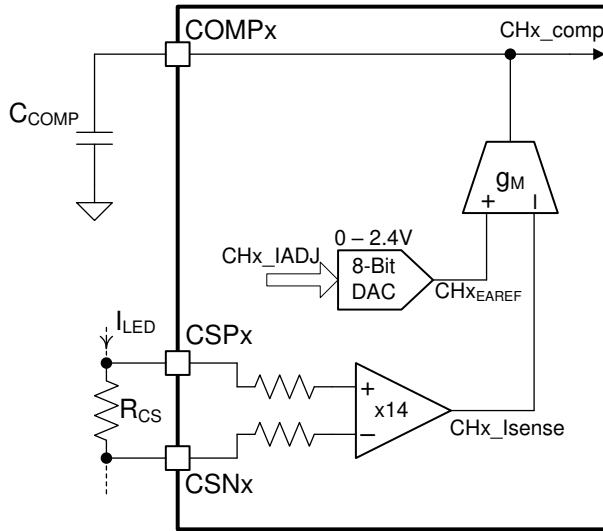
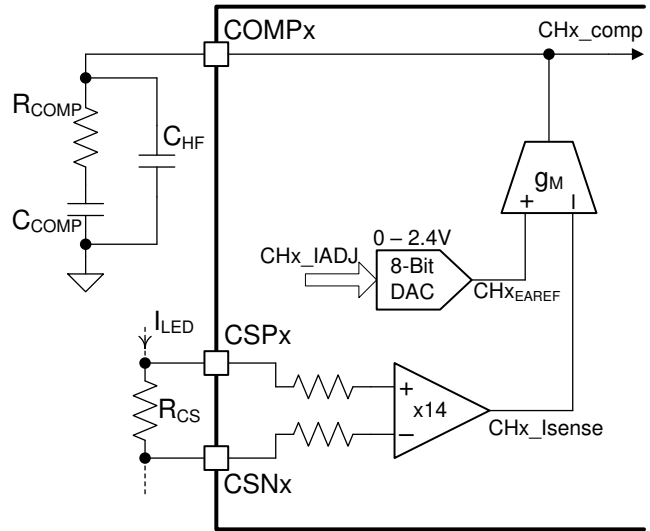

图 8-4. Integral Compensator
图 8-5. Proportional Integral Compensator
The feedback transfer function includes the current sense resistor and the loop compensation of the transconductance amplifier. A compensation network at the output of the error amplifier is used to configure loop gain and phase characteristics. A simple capacitor,  $C_{COMP}$ , from COMPx to GND (as shown in 图 8-4) provides integral compensation and creates a pole at the origin. Alternatively, a network of  $R_{COMP}$ ,  $C_{COMP}$ , and  $C_{HF}$ , shown in 图 8-5, can be used to implement Proportional-Integral (PI) compensation to create a pole at the origin, a low-frequency zero, and a high-frequency pole.